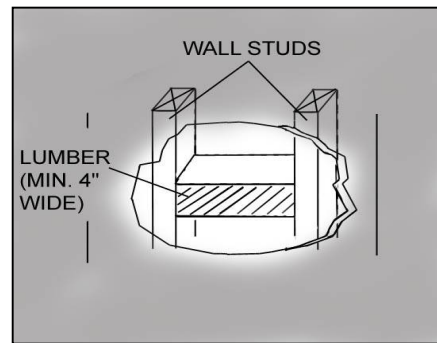

Figure 9
- If necessary, prepare back wall frame with cross framing lumber for secure installation. Using references on Table 2 and measurements on page 15, decide the level of the lumber. Refer to Figure 9.